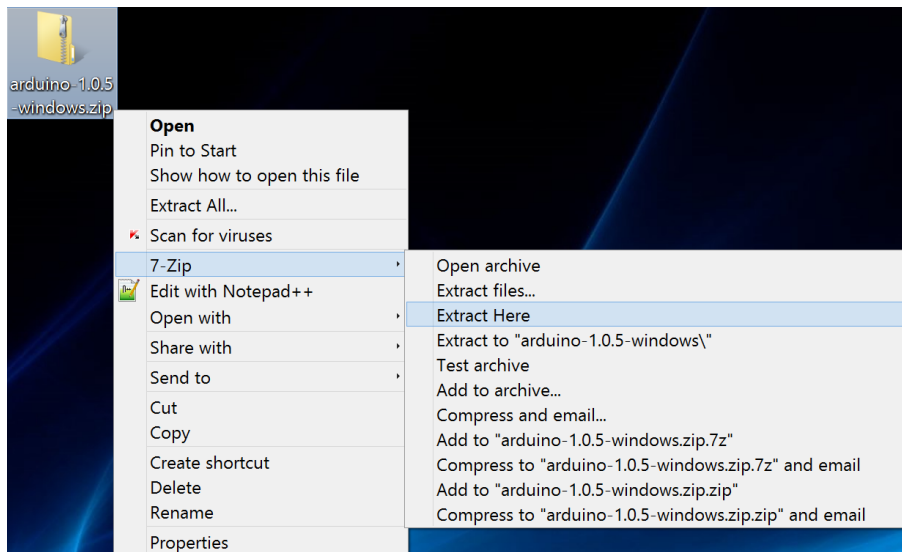

Figure 2.8: Unzip the Arduino zip file using 7-Zip
- Unzip the file using 7-Zip or other archive software (Figure 2.8). The unzipped files will appear in a folder named "**arduino-1.0.5**".